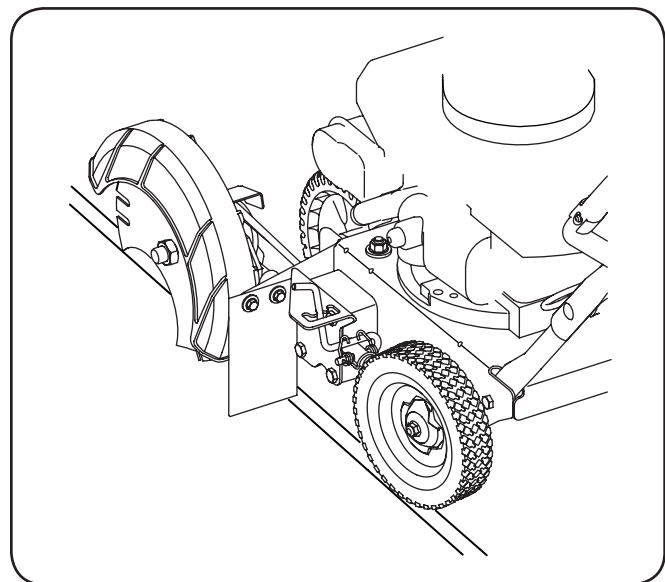

Figure 5-2
1. Move the edger to an area to be edged, making sure that the left rear wheel is on a hard surface and the blade is over the area to be cut. See Figure 5-2.